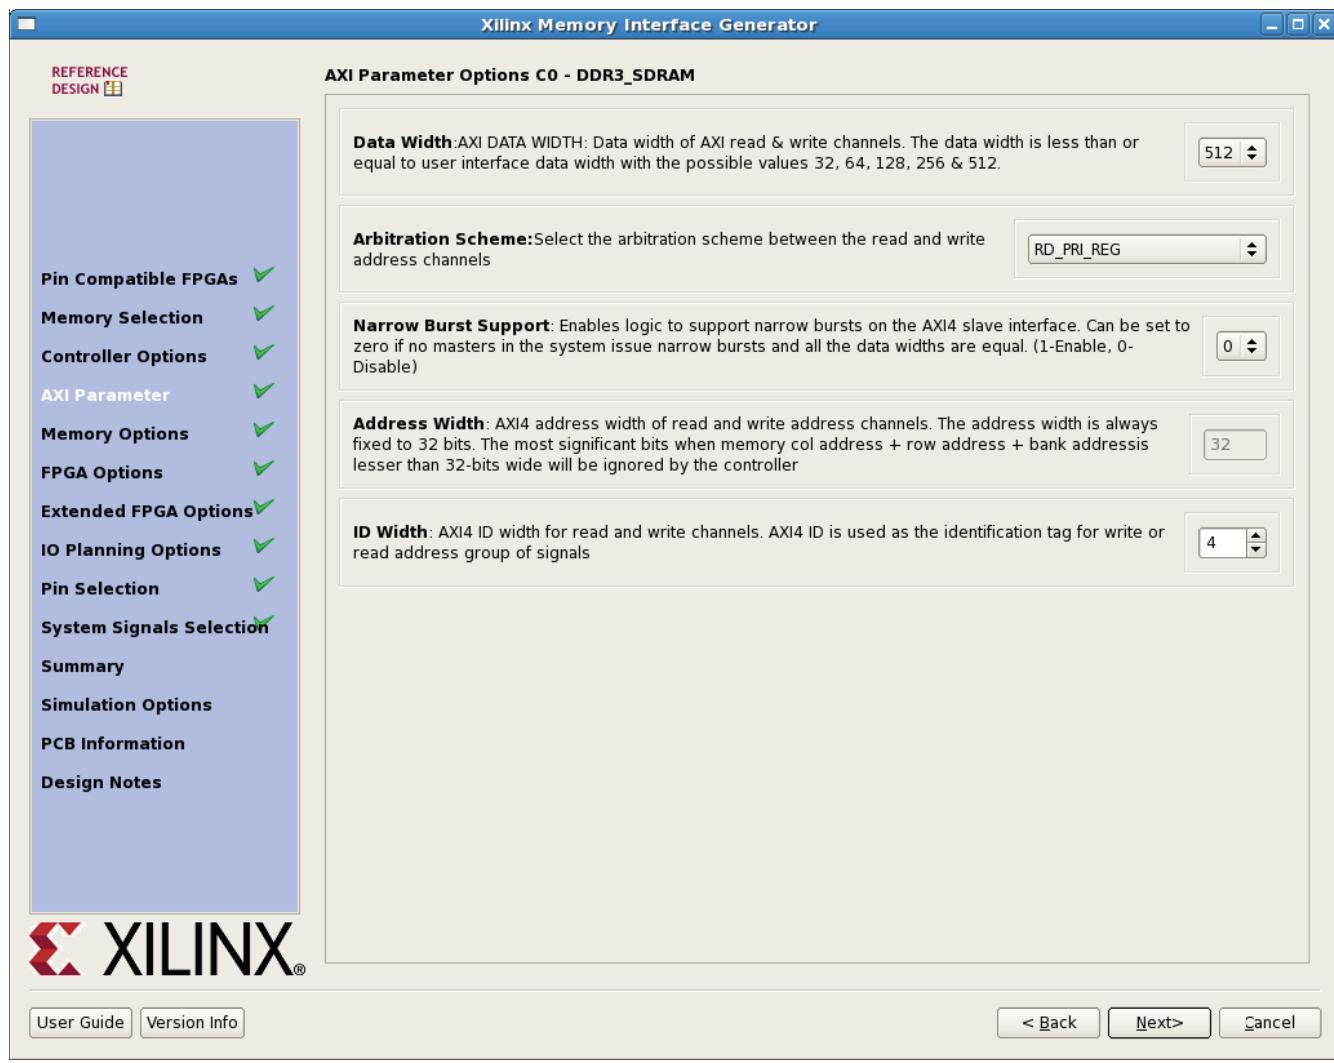

Figure 34: MIG AXI Parameter Options
22. For AXI Parameter settings, make the following selections, then click **Next** (Figure 34):